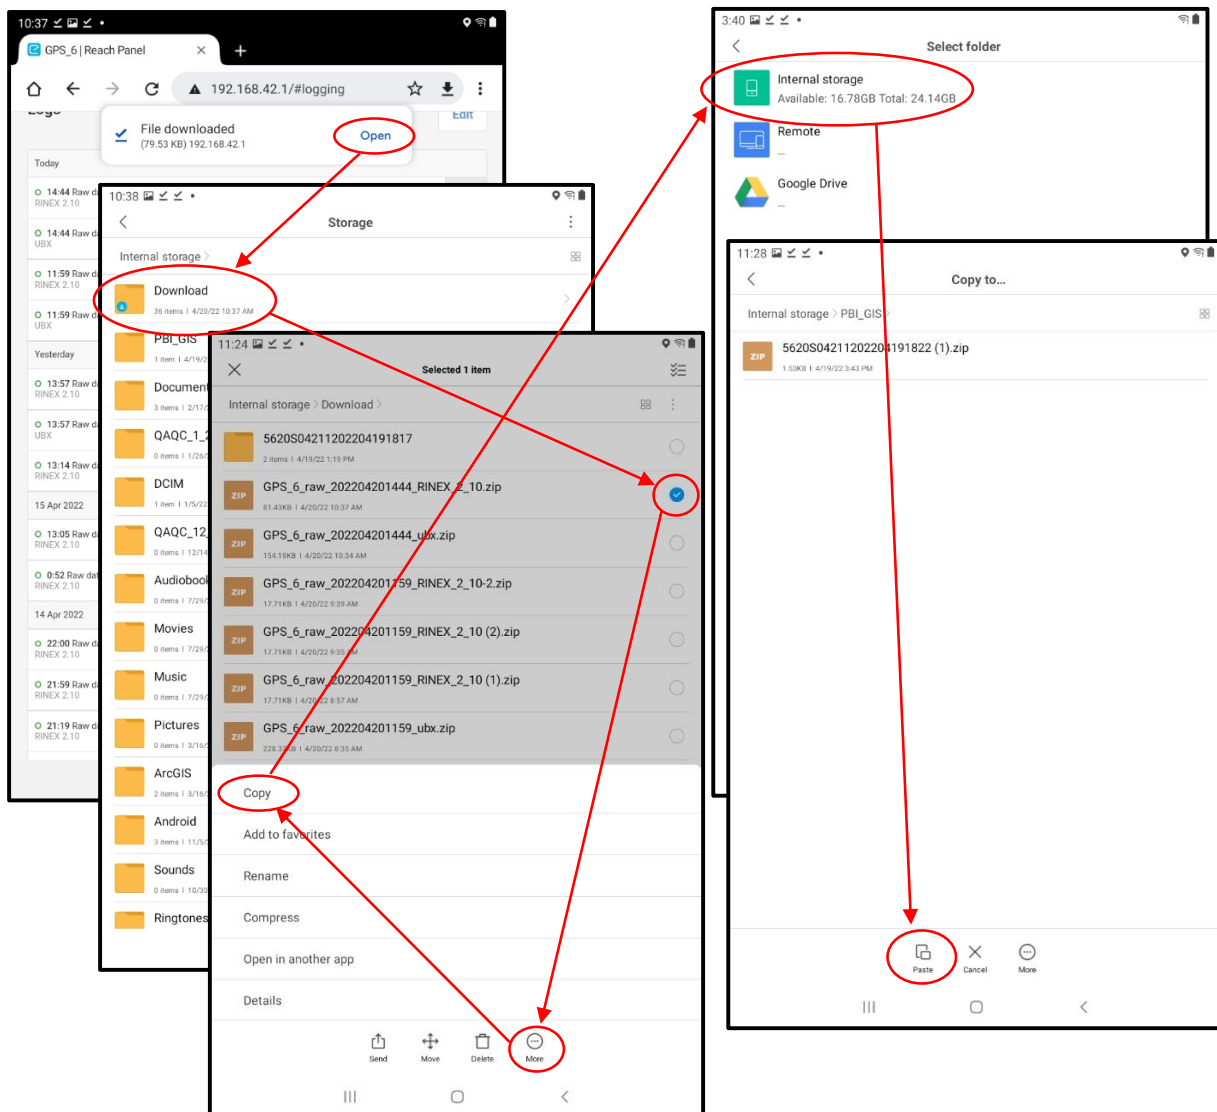

Figure 34. Figure showing Emlid Reach RS2 workflow for moving GPS File to PBI_GPS folder with red circles and arrows showing the workflow
- I. Select Open File to open File Manager (Figure 34)